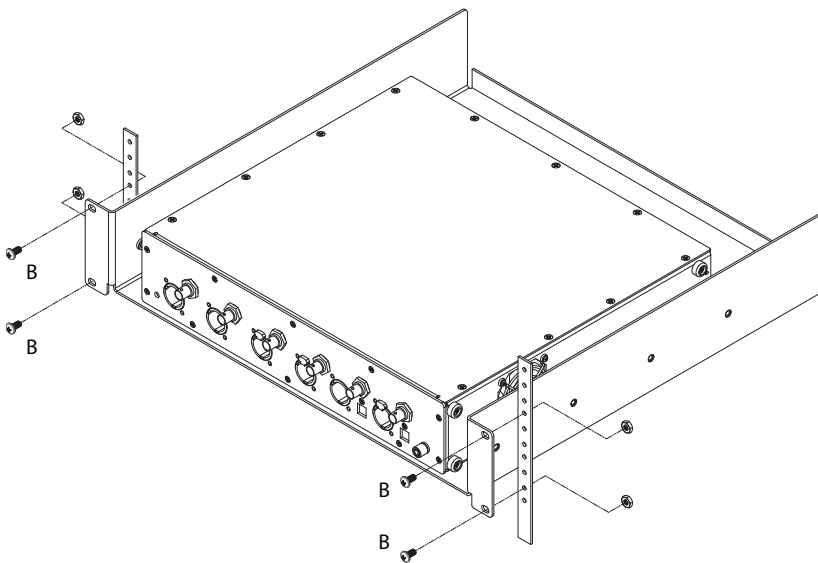

Figure 1. APx515 and rackmount shelf adapter, mounted in 19" rack.
### Mounting Option I: Unsecured shelf mounting (Figure 1)
Step 3. Turn the shelf upside down and place it over the APx515 chassis bottom, with the rubber feet in between. Align the shelf so that the feet are under the indentations at (D) for flush mounting, or at (E) for recessed mounting.
Step 4. Insert the 4 6-32 x 9/16" screws (C) through the screw holes in the shelf indentations, through the rubber feet, and into the tapped mounting holes in the APx515 chassis bottom.
Step 5. Using the 4 10-32 5/16" screws (B), mount the assembled shelf and APx515 instrument in a standard 19" equipment rack. See Figure 1.